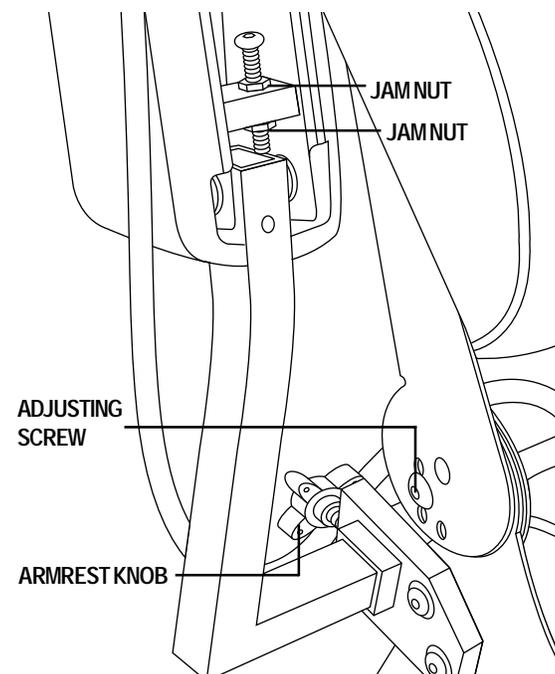

Figure 9. Seatback and Armrest Adjustments
1. Remove the adjusting screws on both seat hinges. See figure 9.
1. Locate the two armrest knobs on each side of the armrest receiver bracket. See figure 9.
2. Loosen the jam nuts. See figure 9.